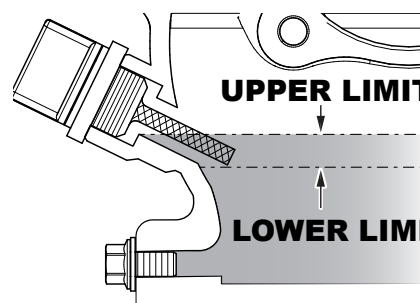

Figure 9. Engine Oil Dipstick (Oil Level)
4. If the oil level is low (Figure 9), fill to the edge of the oil filler hole with the recommended oil type as listed in Table 3. Reference Table 2 for maximum engine oil capacity.